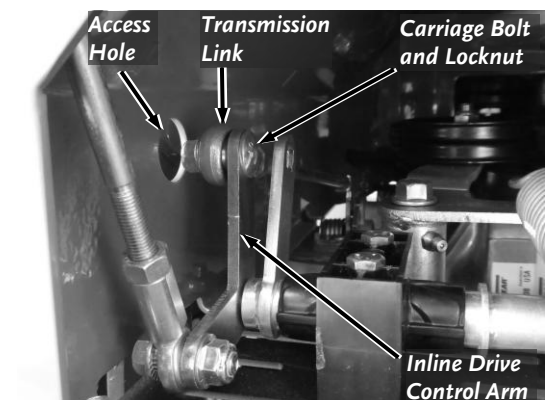

Figure 57
3. Move the Transmission Link to the left Control Arm and secure with the Carriage Bolt and Locknut using the 1/2 Socket and Extension (**Figure 57**).